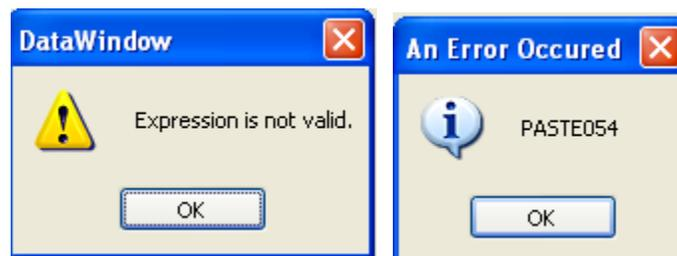

Figure 4-5: Pop-Up Error Messages for Incompatible EXCEL Data
- *EXCEL* data that is not compatible with *PERCEPTION* (see Restrictions on *EXCEL* Data above) will be flagged by *PERCEPTION* as it attempts to paste in the data. Figure 4-5 displays the two pop-up error windows generated by *PERCEPTION* when an incompatibility has been detected.